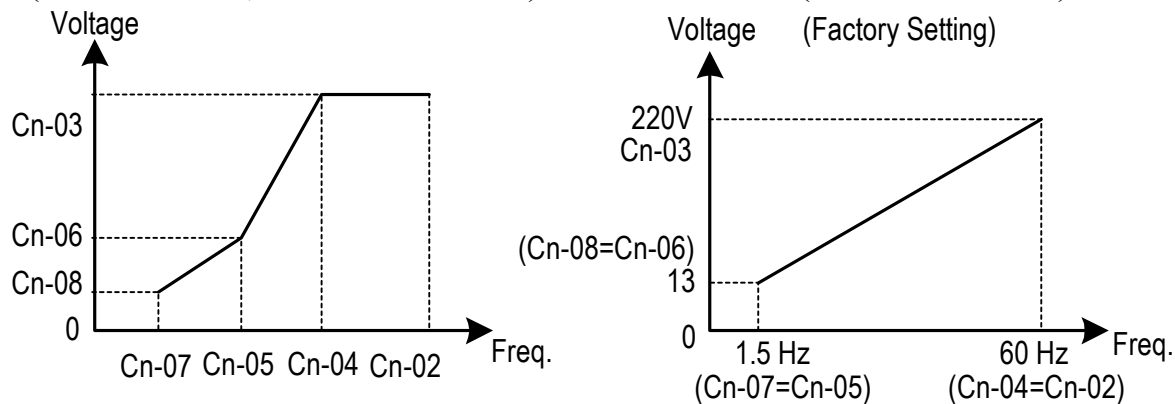

Fig. 15. User-defined V/F curve
(1) Input Voltage Setting (Cn-01)
(2) V/F Curve Parameter Settings (Cn-02~Cn-08)
- Setting Cn-02~Cn-08 can be set by the user when Sn-02 has been set to “15”. The user-defined V/F curve can be specified through the settings of Cn-02~Cn-08 as shown in Fig. 15. The factory setting is straight line for the V/F curve. (Cn-05=Cn-07, Cn-06 is not used) as shown below (230V/60Hz case).